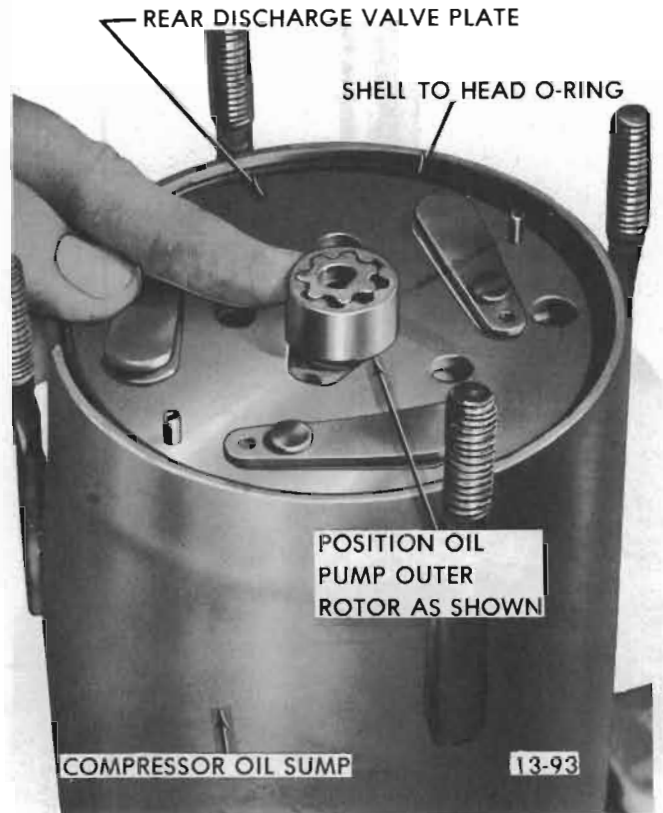

Figure 13-67 Positioning Oil Pump Outer Rotor
- Reassemble inner and outer oil pump rotors so that the sides previously identified are in their original location, and then position oil pump outer rotor as shown in Figure 13-67.
- Generously coat with No. 525 viscosity oil new shell to head "O" ring and install in shell (see Figure 13-67).